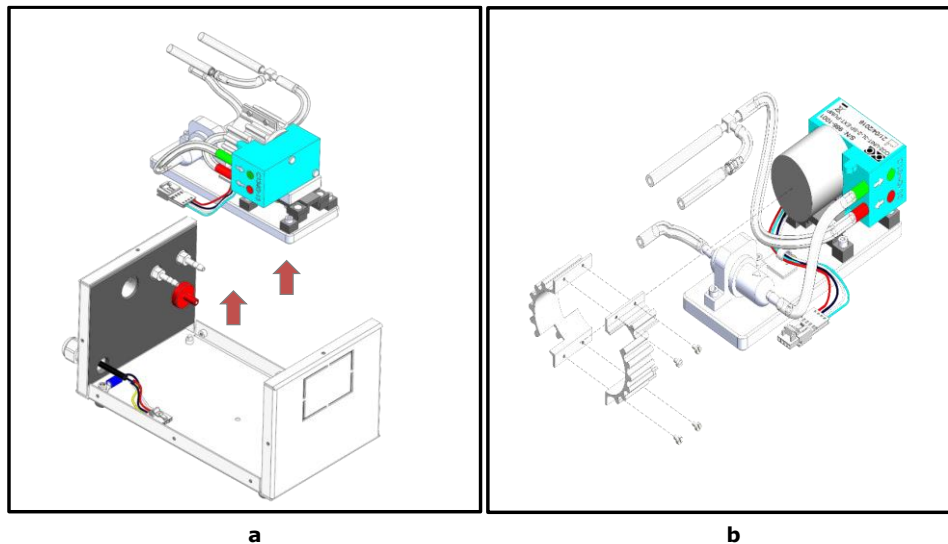

Figure 61. Pump replacement. (a) Pump lifting; (b) Heat sink removal.
4. Lift the pump with its support. (see Figure 61, a).
5. Loosen the screws to remove the heat sink from the pump (see Figure 61, b).